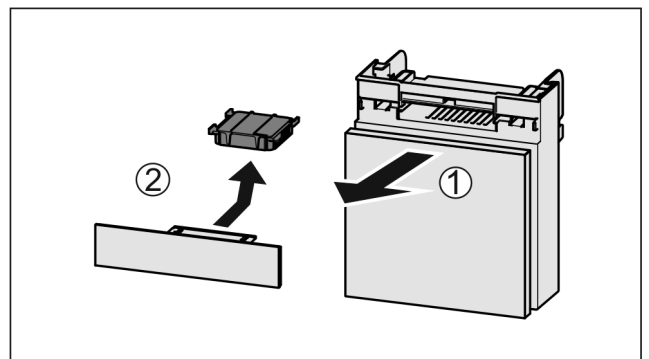

Fig. 112
- ▶ Pull out the compartment Fig. 112 (1).
- ▶ Remove the carbon filter Fig. 112 (2).